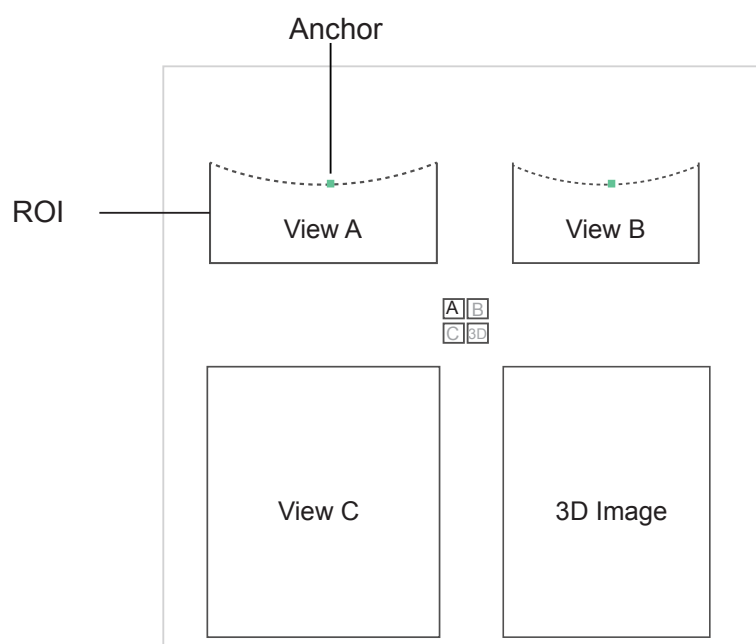

Figure 7-3 Cropping Review Screen
3. Crop the image of A View, B View or C View, as shown in Figure 7-3.